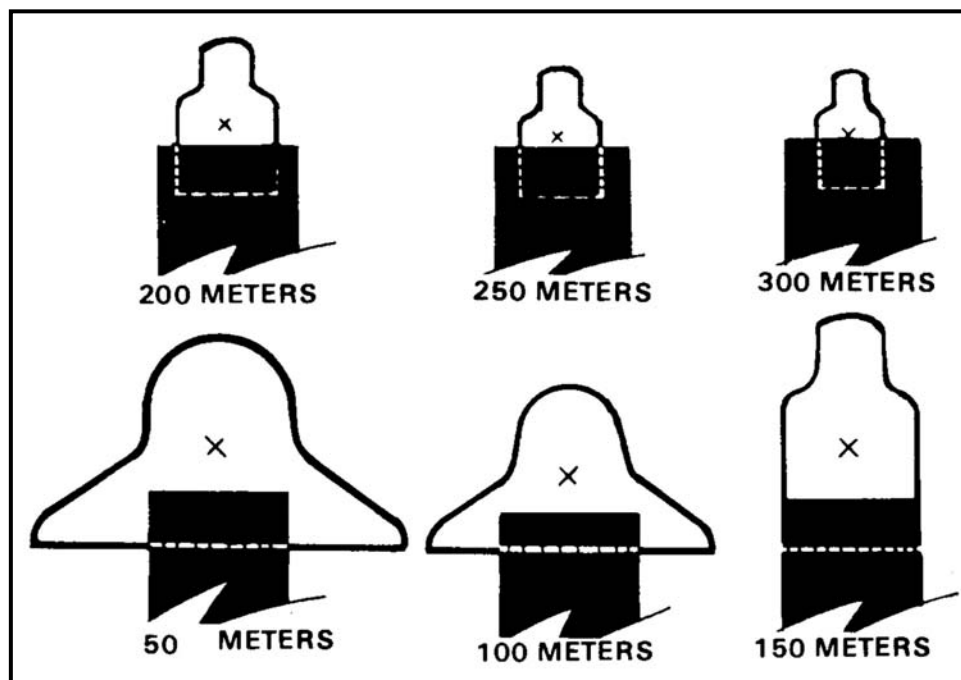

Figure 5-26. M16-/M4-series weapons aiming points.
b. **Adjusted Aiming Point Based on Gravity.** An adjusted aiming point (Figure 5-26) is intended to increase hit probability when properly presented. However, soldiers can be easily confused, which could result in degraded performance. All soldiers should be taught to aim center mass unless they are confident they know the range to the target. If adjusting the point of aim confuses the soldier he should aim center mass of the target. Using these aiming points places the center of each shot group center mass of the target (assuming a perfect zero and no shooter error). These adjustments are small and should only be applied by competent firers who wish to improve their firing performance. Because the difference between the M16-/M4-series weapons is so small, and to avoid confusion, the same adjusted aiming points should be used regardless of the weapon being fired.